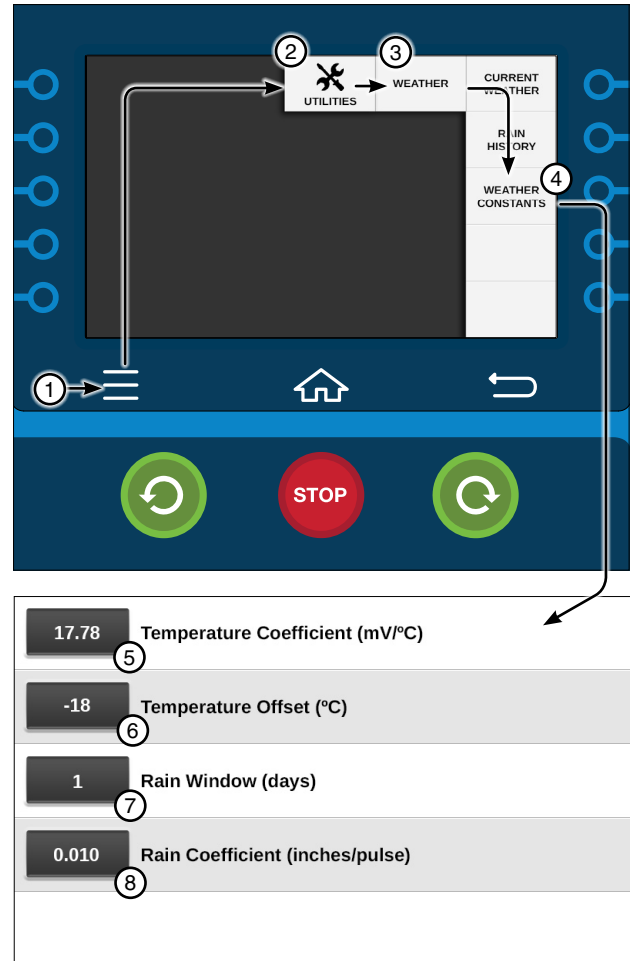

Figure 77-1 1. Menu 5. Temperature Coefficient
Push **Menu**, **Utilities**, **Weather**, and **Weather Constants** to display the Weather Constants screen. Refer to Figure 77-1.
Example: to enter a negative number, push the **ABC** button, then push the **+/-** button and select **-**, then push the **123** button to return the numeric keypad and enter 1, 8, **-** for -18. Valid values are -500 - +500. The default value is -18. Refer to Figure 77-1.
2. Using the numeric keypad, enter the number of days (0 - 10). The default value is 1. Refer to Figure 77-1.
2. Using the numeric keypad, enter the Rain Coefficient Inches per Pulse (Rain Coefficient inches/pulse). Example: 1, 0 for 0.010. Refer to Figure 77-1.